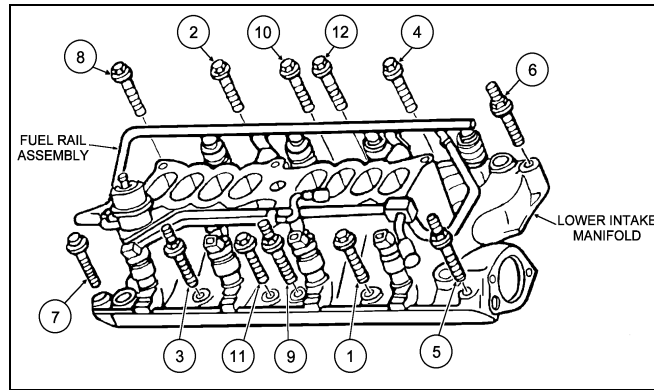

Figure 4
- Loosen the lower intake manifold bolts a 1/2 turn in **reverse** of the torque sequence shown in Figure 4 (starting with number 12 and ending with number 1). After loosening all the lower intake bolts, the bolts can be removed.